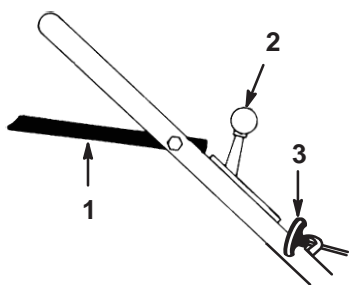

Figure 9
The blade control bail, starter handle, and throttle control are on the upper handle as shown in Figure 9.
- Move the throttle control to the (**Choke**) position (Fig. 9).